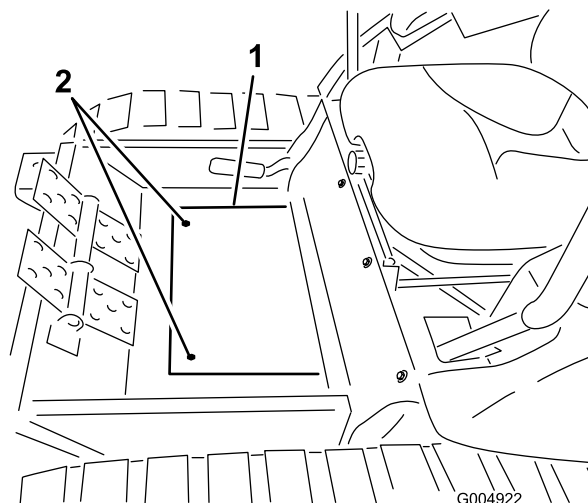

Figure 73
3. Remove the two capscrews securing the floor plate cover and remove the cover (Figure 73).